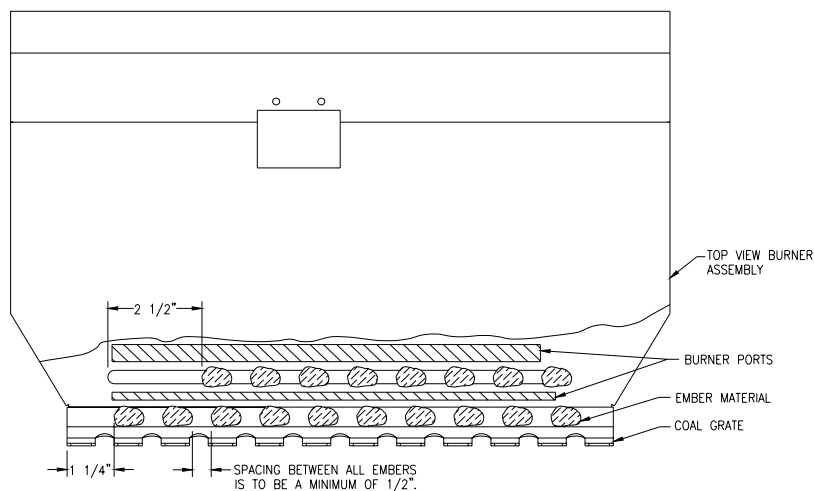

Figure 14
2. Install embers as shown in Figure 14. **NOTES:** Embers must not cover burner ports.